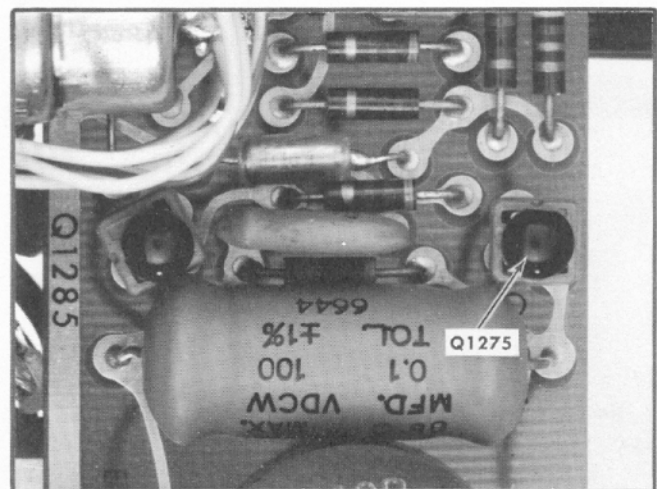

Fig. 6-5. Location of Q1275 (Calibrator circuit board).
2. Adjust +12-Volt Power Supply ①
b. Remove Q1275 (behind swing-out side panel; see Fig. 6-5) from the Calibrator board.